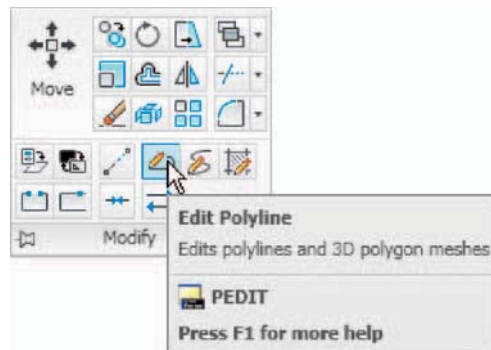

Fig. 3.42 Calling **Edit Polyline** from the **Home/Modify** panel
2. Call the **Edit Polyline** tool either from the **Home/Modify** panel (Fig. 3.42) or from the **Modify** drop-down menu, or by *entering pe* or *pedit* at the command line, which then shows: